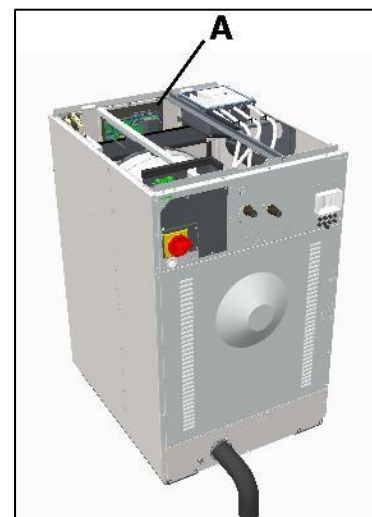

Fig. 3.1
2. Carefully disconnect all the connectors and wires from the front panel board **A** (Fig. 3.1).